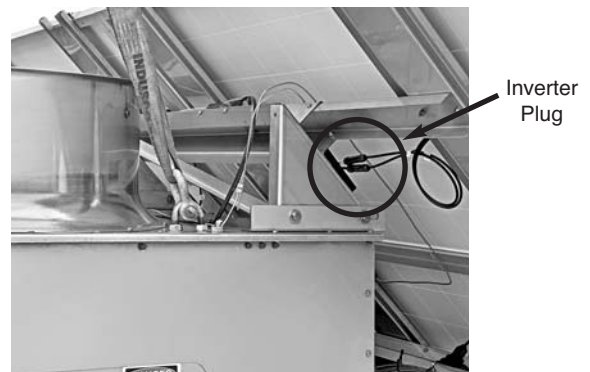

Figure 6 – Electrical Connection for Solar Panels
3. Connect each solar panel to its inverter plug (Figure 6).